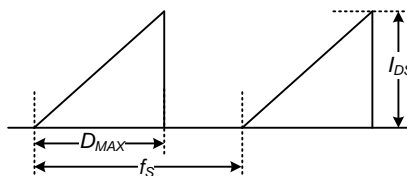

Figure 4. Repetitive Peak Switching Current
7. Repetitive peak switching current when the inductive load is assumed: Limited by maximum duty ($D_{MAX}=0.73$) and junction temperature (see Figure 4).